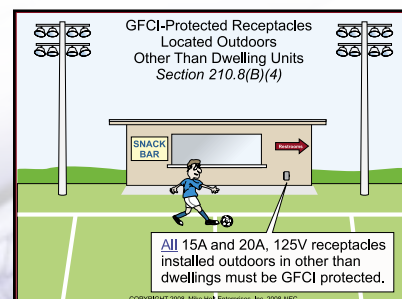

Figure 210-10
(4) Outdoors - All 15A and 20A, 125V receptacles installed outdoors shall be GFCI-protected. (See Figure 210-10)